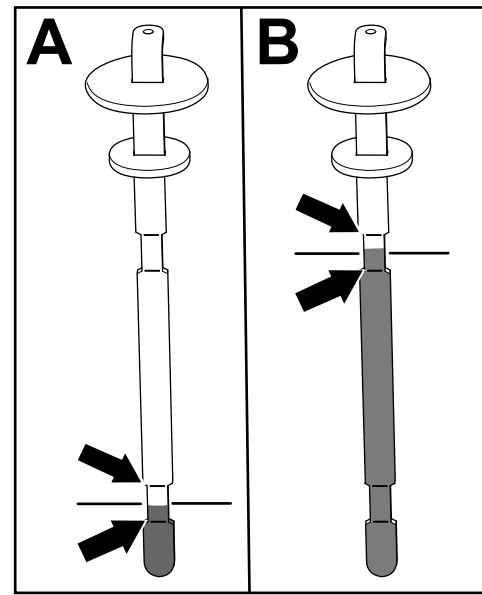

Figure 81
5. Remove the dipstick and check the fluid level (Figure 81).
- **If you have a cutting unit equipped:** The hydraulic-fluid level is at the appropriate level when the fluid appears between the lower 2 marks on the dipstick (A in Figure 81). It is also acceptable for the fluid level to be above the lower marks.
- **If you have the Hydraulic Driven Attachment Hose Kit equipped:** The hydraulic-fluid level is at the appropriate level when the fluid appears between the upper 2 marks on the dipstick (B in Figure 81).